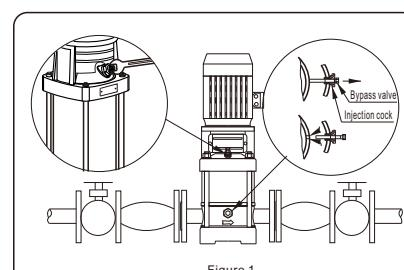

Figure 1
10.3Need to replace the water drain valve, must first unscrew the valve, then unscrew the screw plug to tighten the drain plug, then tighten bypass valve.(Figure1)
9.2 The air is discharged, tighten the bleeder screw using special tool. (Figure 1)